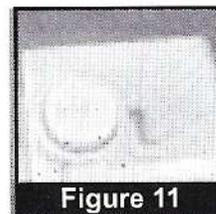

Figure 11
3. Loop the thread around the outside of thread guide 1. (Figure 11)